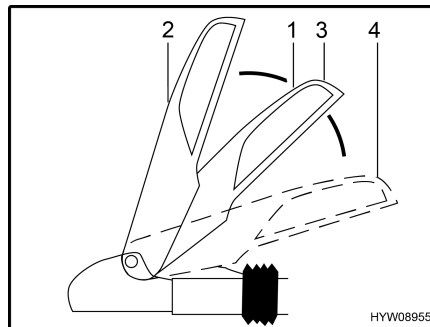

Fig. 1 BPW stabiliser
- Pull the coupling handle (Fig. 1,1) upwards into position "Open" (Fig. 1,2). Stabiliser is open.
- Place the opened stabiliser on the caravan coupling of the towing vehicle and release the coupling handle. The handle glides automatically back to its initial position (Fig. 1,3).
- Activate the stabilising mechanism. To do this, press the coupling handle downwards (Fig. 1,4) from the closed position (Fig. 1,3) to its stop limit.
To deactivate the stabilisation mechanism, e.g. for manoeuvring, pull the coupling handle (Fig. 1,1) slowly upward to the closed position (Fig. 1,3).